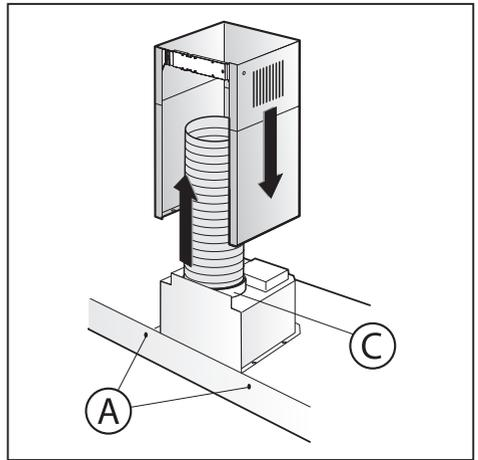

Fig.3
-When the appliance has been adjusted, definitely fix the hood using the screws **A** (Fig.3).
-Connect the flange **C** to the air exhaust hole using a connection pipe (Fig.3).